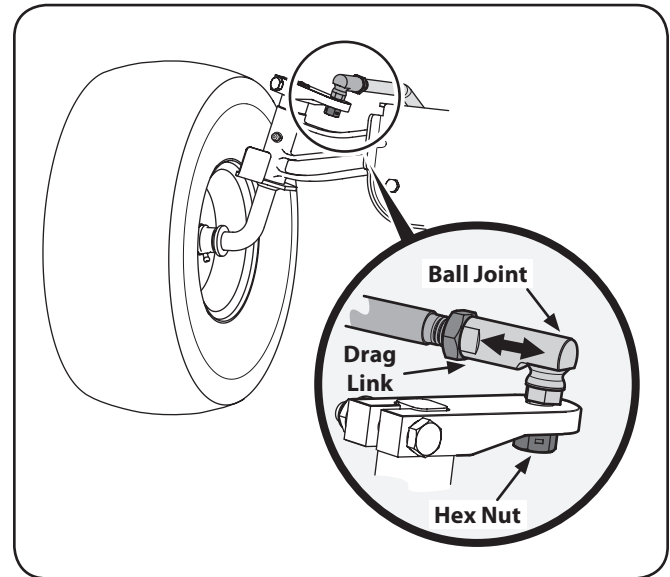

Figure 6-6
1. Remove the hex nut below the ball joint. See Figure 6-6.